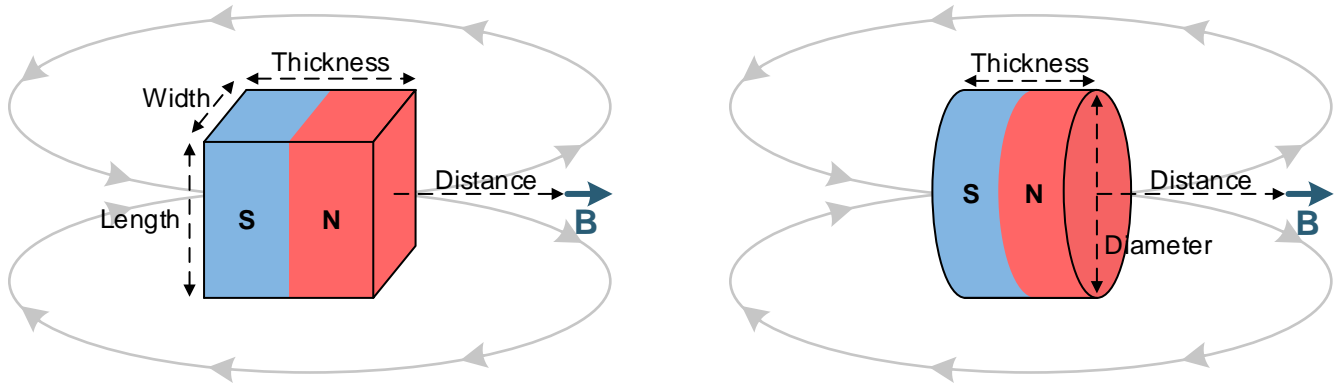

图 23. Rectangular Block and Cylinder Magnets
Magnets are made from various ferromagnetic materials that have tradeoffs in cost, drift with temperature, absolute maximum temperature ratings, remanence or residual induction (B_r), and coercivity (H_c). The B_r and the dimensions of a magnet determine the magnetic flux density (B) produced in 3-dimensional space. For simple magnet shapes, such as rectangular blocks and cylinders, there are simple equations that solve B at a given distance centered with the magnet. 图 23 shows diagrams for 公式 4 and 公式 5.
Use 公式 4 for the rectangular block shown in 图 23:
Use 公式 5 for the cylinder shown in 图 23: